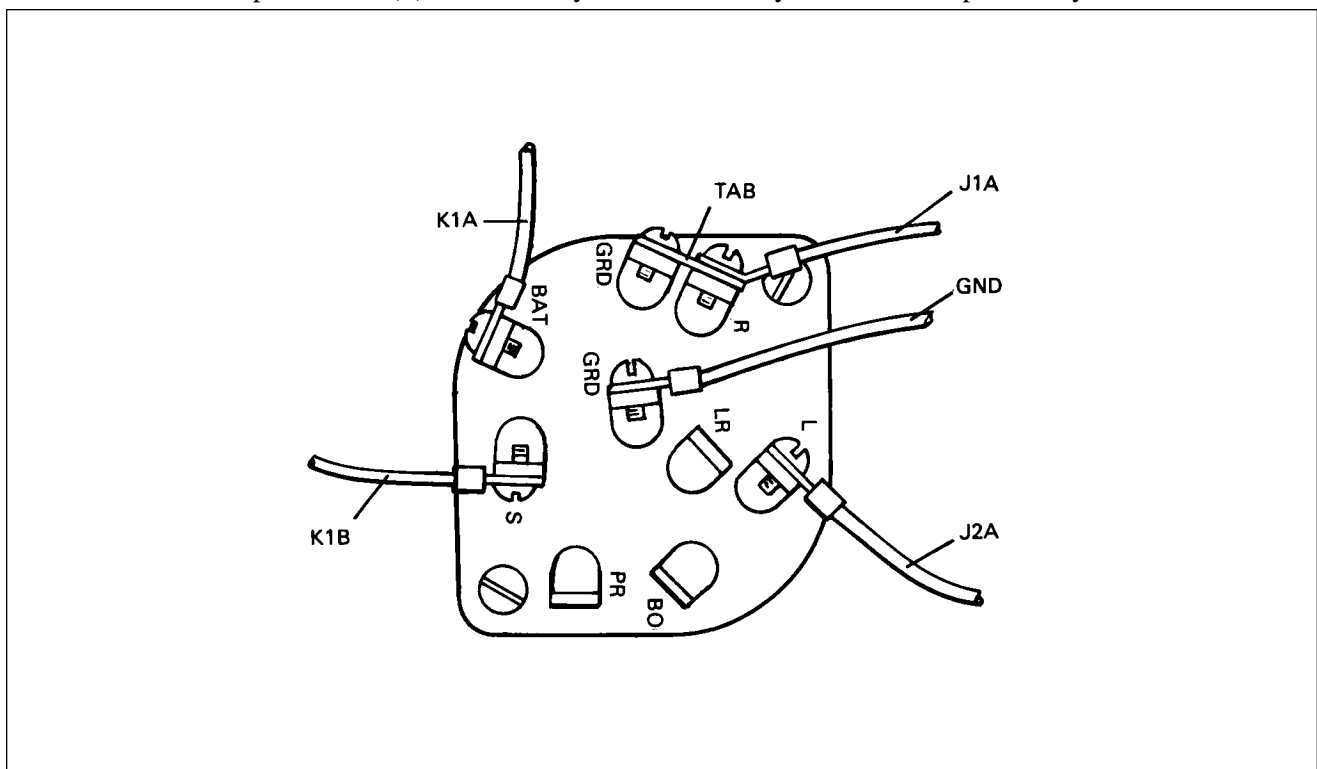

Figure 74-45. Ignition Switch Wire Positions
INSTALLATION OF IGNITION SWITCH. (Refer to Figure 74-45.)
1. Attach wires to switch as shown in Figure 74-45.